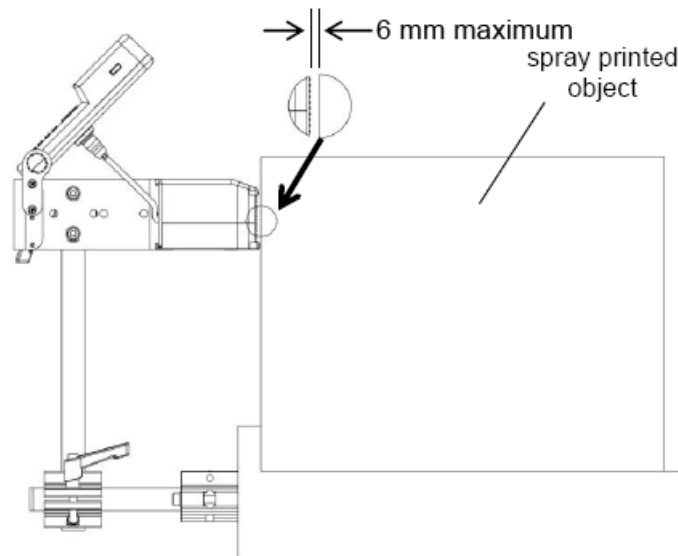

Figure 3-8: Print Distance Adjustment
**Note:** To achieve optimal print quality, position the printhead nozzles to a maximum throw distance of 6mm from the substrate. (refer Figure 3-8). Prevent any strong wind (like that from a fan) from blowing onto the nozzle.